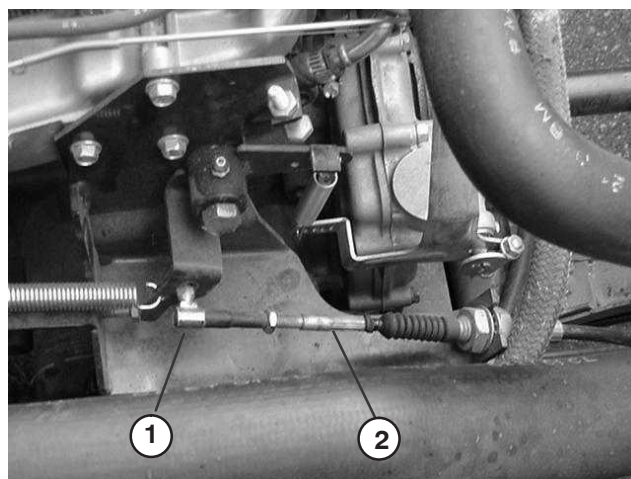

Figure 49
2. Adjust ball joint on accelerator cable (Fig. 49) to allow .200"–.350" of clearance between accelerator pedal arm and top of diamond tread floor plate, when a 20 lb. force is applied to center of pedal. Tighten locknut.